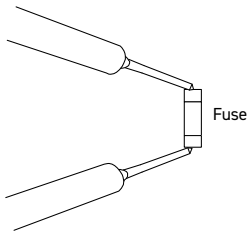

Fig.2
- 2) Check for continuity by a multimeter as shown in Fig.2.